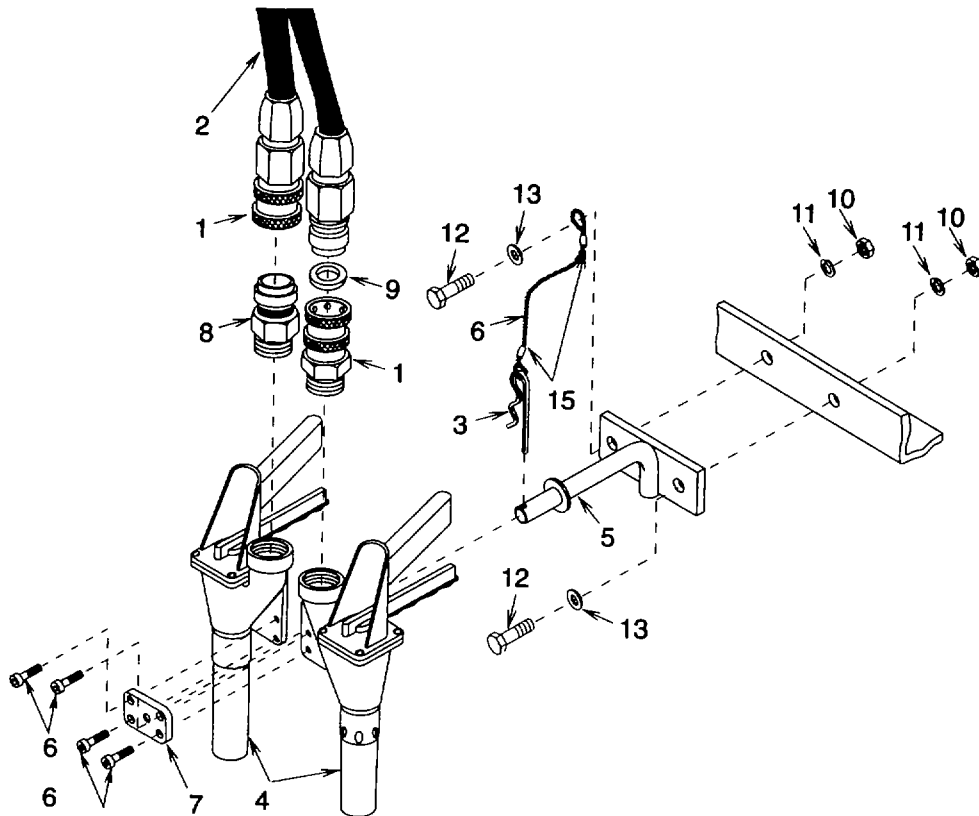

Figure 4-8. Nozzle Bracket and Quick Coupling Half Disconnect
a. Removal (See figure 4-8)
- (1) Release quick coupling half (1) and disconnect hose assembly (2).
- (2) Pull pin (3) and remove nozzle (4) assembly from bracket (5).
- (3) Remove four screws (6) securing nozzle (4) to tie bar (7)
- (4) Remove nipple (8) and coupler (1) from nozzle (4)
- (5) Remove O Ring(9) from coupler (1).
- (6) Remove two nuts (10), lock washers (11), screws (12), flat washers (13), cable (14), and bracket (5)